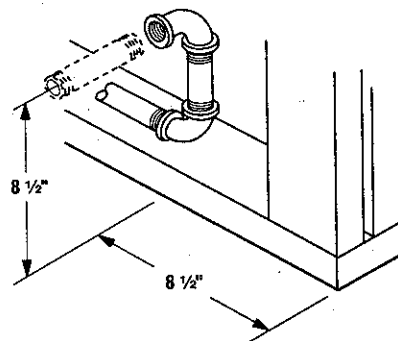

Figure 9
Step 2. Route a 1/2" NPT black iron gas line 8 1/2" above the floor surface (if the appliance will be resting on the floor) and 8 1/2" behind the face of the rough framing (Figure 9).